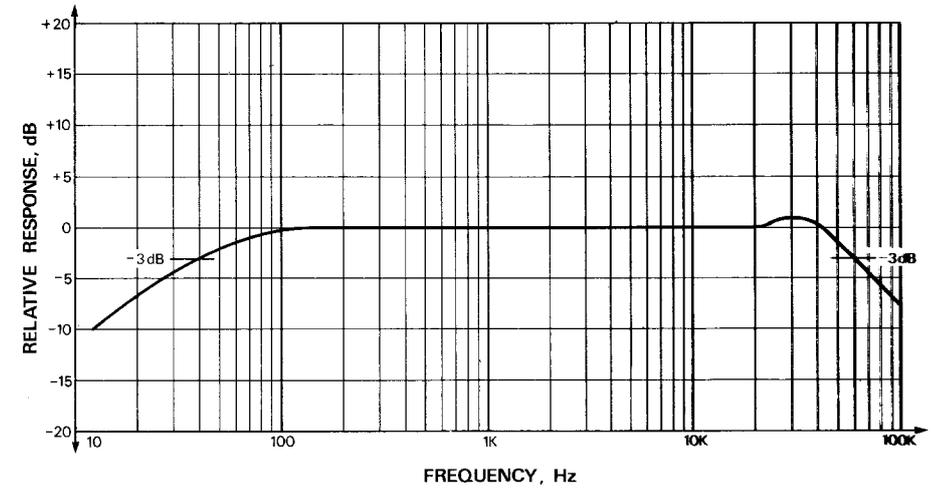

Fig. 6. Plot of amplifier frequency response.
3. The results of response tests can be plotted on semi-log paper as indicated in Fig. 6.